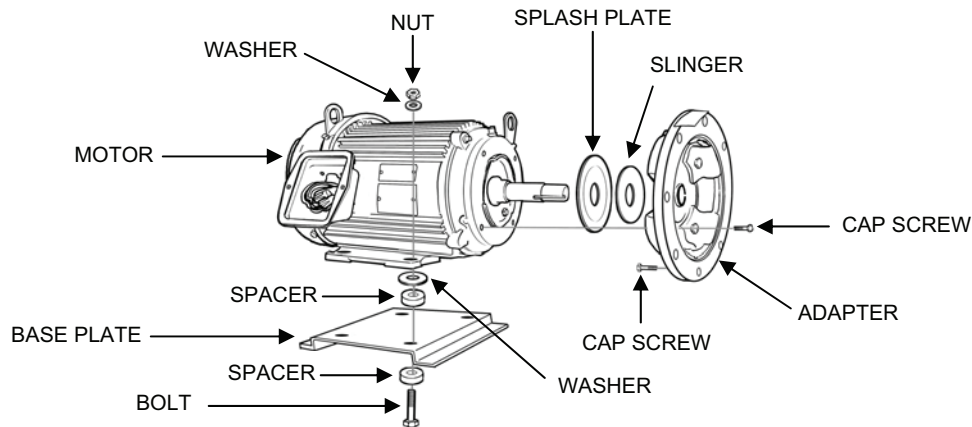

Figure 5. RO Feed Pump P4 Electric Motor Removal.
4. Remove the four cap screws that hold the adapter to the motor (see Figure 5).